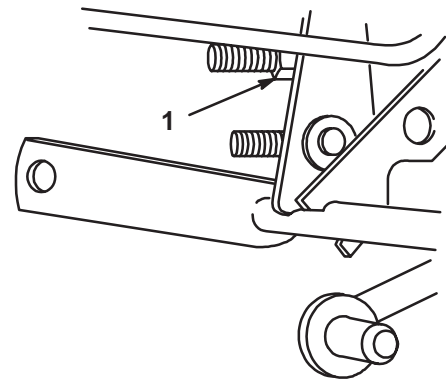

Figure 7
- Adjust by turning transport height nut, (Fig. 7) on lift mechanism, clockwise to raise or counterclockwise to lower mower.